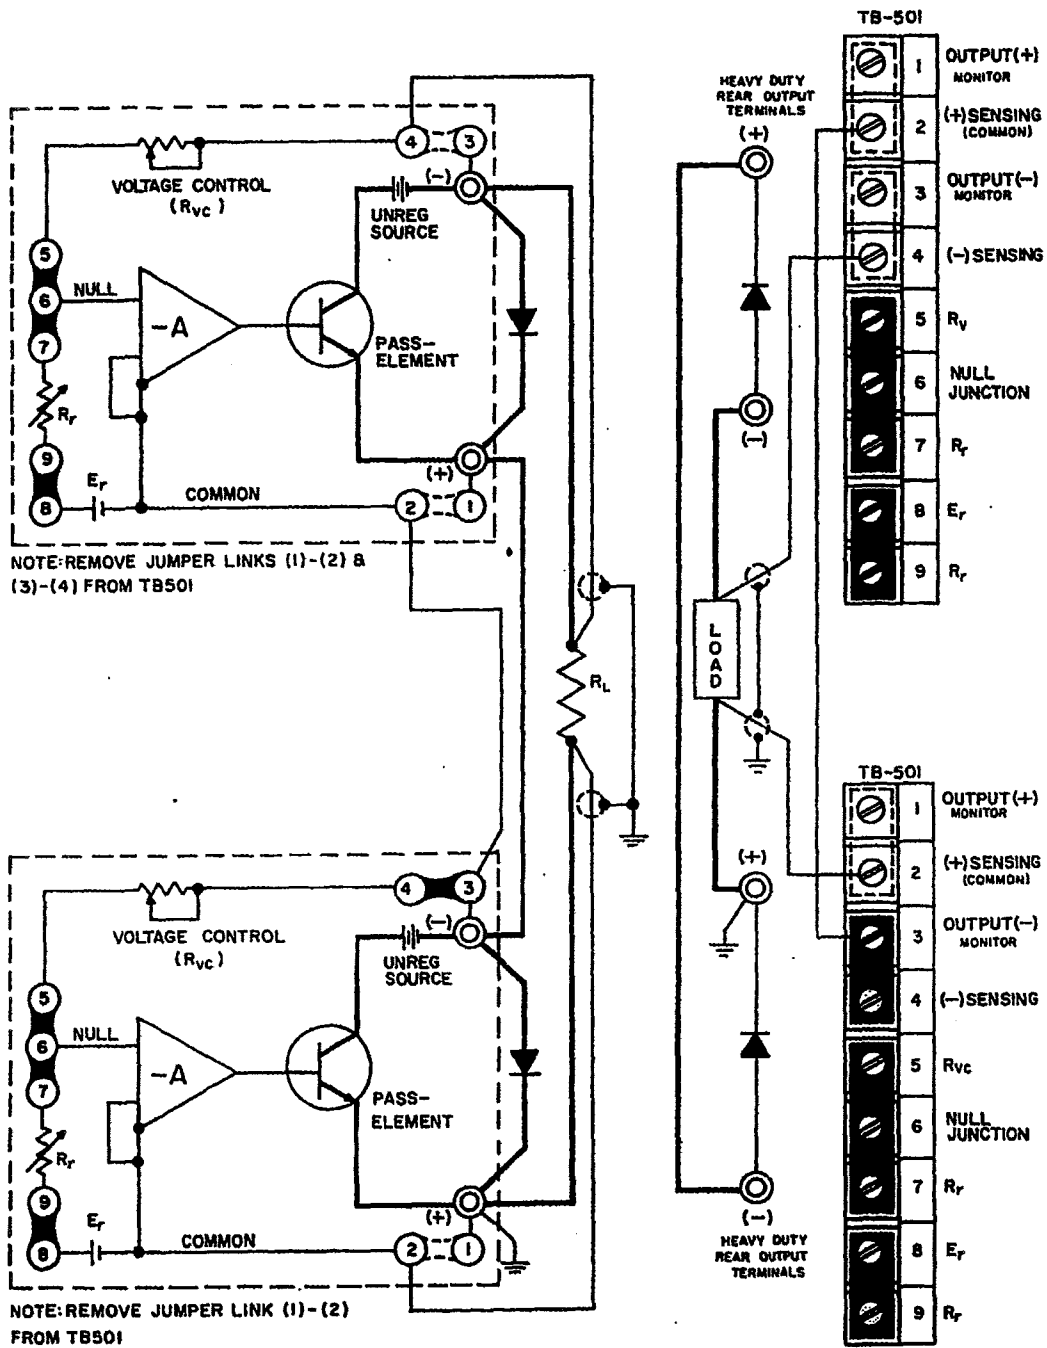
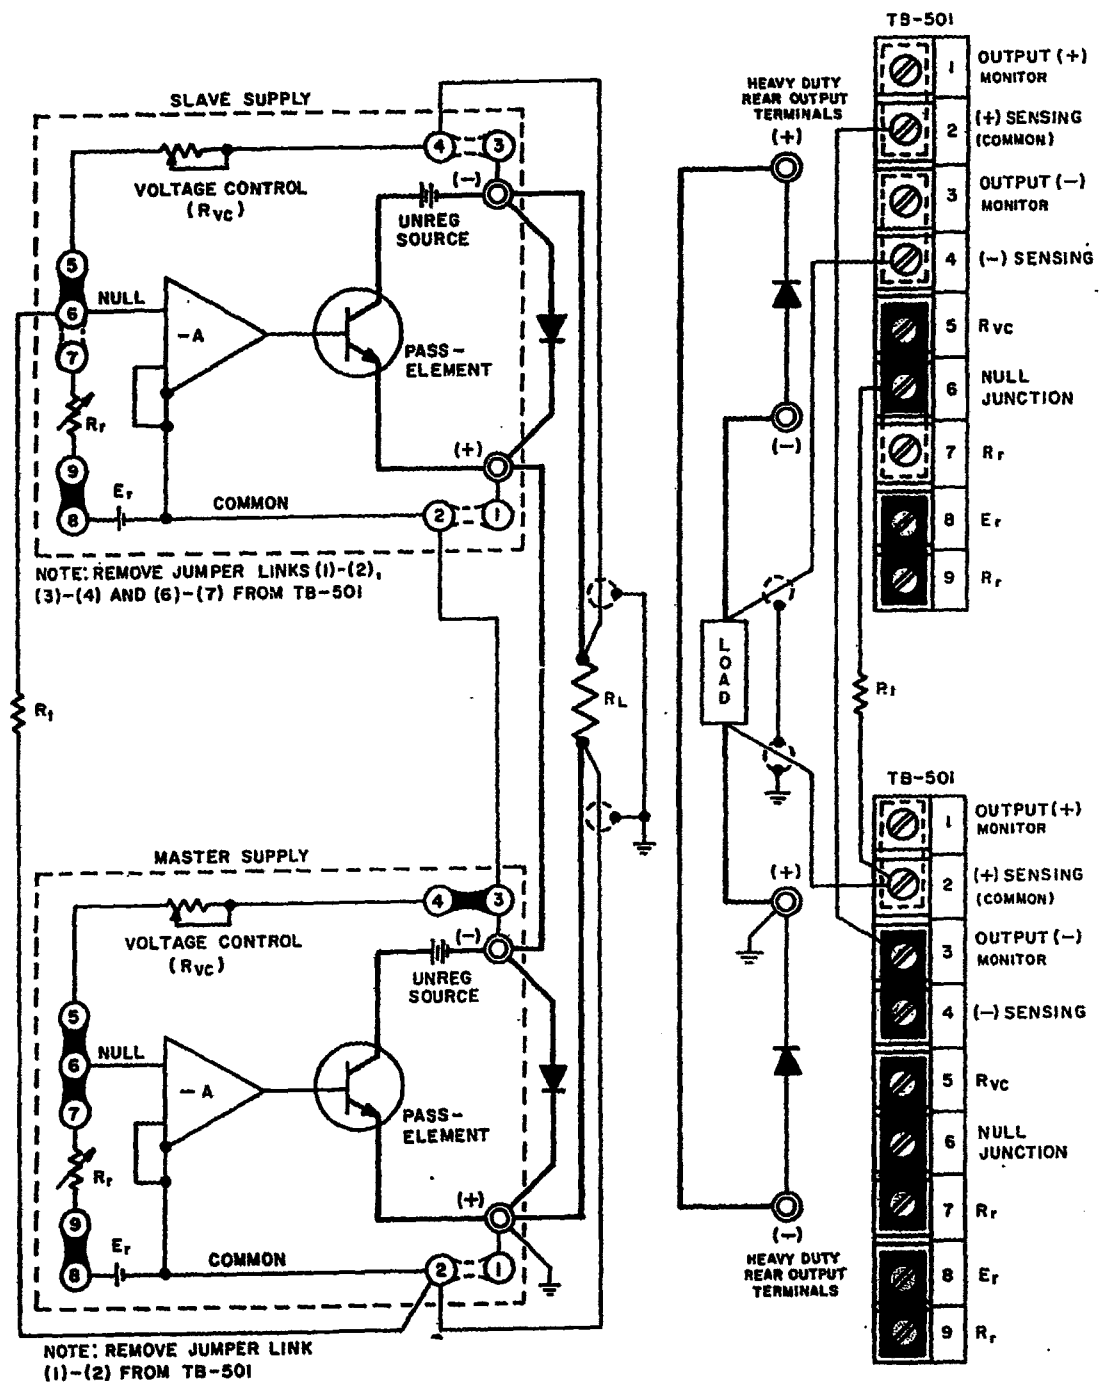

FIG. 3-10 AUTOMATIC SERIES CONNECTION OF KEPKO POWER SUPPLIES
FIG. 3-11 MASTER-SLAVE SERIES CONNECTION OF KEPKO POWER SUPPLIES
3-35 GENERAL. Kepco Power Supplies can be series-connected for increased voltage output, provided the specified limits on voltage to chassis are not exceeded. When series-connected, the supplies should be protected by means of a semiconductor diode across the output terminals of each power supply, as shown in FIG. 3-10. The peak inverse rating of these diodes must be at least as large as the output voltage of the supply to which they are connected. The continuous current rating of the diodes should be at least as great as the largest short-circuit current of the interconnected supplies.
3-36 Two basic series connection methods are generally used, the "Automatic Series Connection", as illustrated in FIG. 3-10, and the "Master-Slave" connection, shown in FIG. 3-11. The basic difference between these two alternate methods lies in the manner of the output control. While in the "Automatic" connection the outputs of both supplies may be controlled individually, in the "Master-Slave" connection, control is exercised from the "Master" supply alone, while the "Slave" supply follows the master command in a ratio which may be pre-determined by the user. The latter method of series operation is therefore frequently termed "Automatic Tracking".
- a) Connect load as shown in FIG. 3-10. Keep voltage drop in load wires as low as practical by using heavy gauge wire.
3-38 The "Master-Slave" series connection method is illustrated in FIG. 3-11. As seen from the figure, the reference voltage ( $E_r$ ) of the "Slave" supply is disconnected and its input or null junction is connected to the output of the "Master" supply via the tracking resistor ( $R_t$ ). The "Slave" supply output is thus completely dependent on the "Master" output voltage:
- a) Connect load as shown in FIG. 3-11. Keep voltage drop in the load wires as low as possible by using heavy gage wire.
- c) Remove jumper links as shown (FIG. 3-11) and connect error sensing leads if remote sensing is desired. Sensing leads should be twisted and shielded.
- d) Select value of the tracking resistor ( $R_t$ ) and connect with shielded wire as shown (FIG. 3-11).